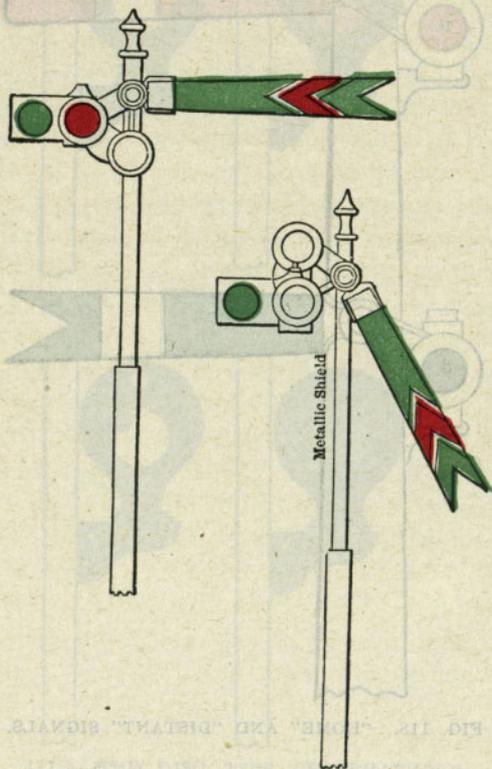

FIG. 119. "CLEAR" INDICATED BY GREEN LIGHT.
**NIGHT COLORS.**—The tendency to change from green to white as a night color indication for "proceed" has already been mentioned. Where this is done there is difficulty in finding a suitable color for "caution." When a single color is substituted for green, for use as the "caution" signal, the color mostly chosen is yellow. But on one or two lines a combined green and red light indicates caution; the red light is concealed when the semaphore is dropped to the "clear" position, the green only showing. But as one lamp serves to show both colors in this combination, no light would be shown should the light be accidentally extinguished. See Figure 119.